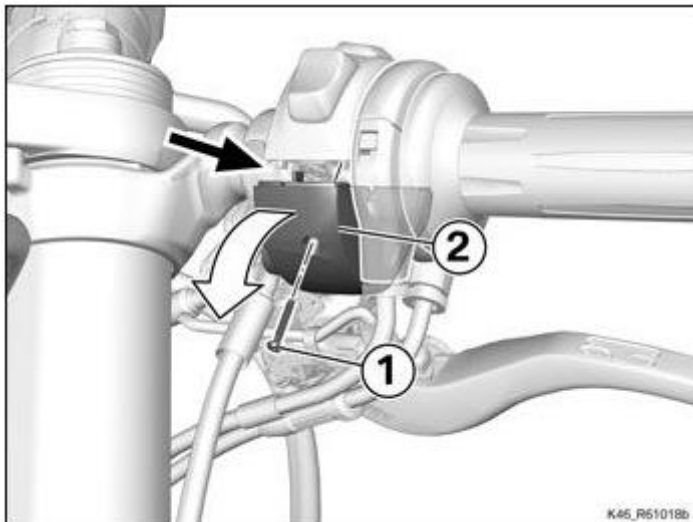

Fig. 7
- Loosen the screw (1) and open the cover (2) by pulling down slightly until the switch is open (Figure 7)